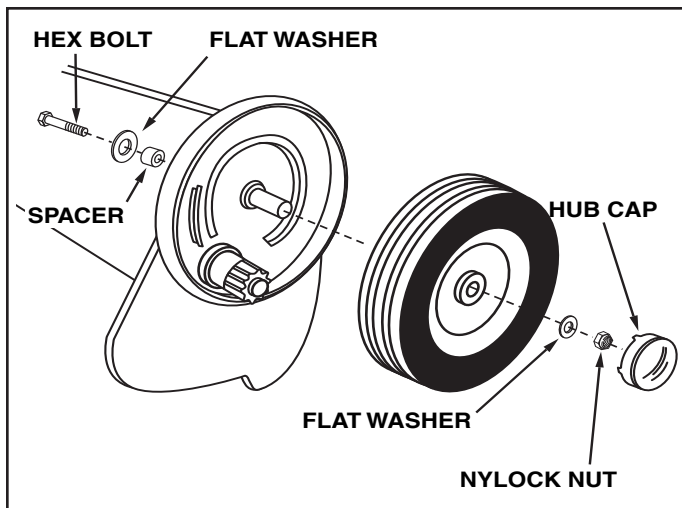

FIGURE 24
- Every two years, remove the wheels and clean the gears found inside the wheel housing. After cleaning, lubricate the gears with an even coat of light grease. To remove the wheel, pop off the hub cap and remove the lock nut and flat washer. See figure 24.